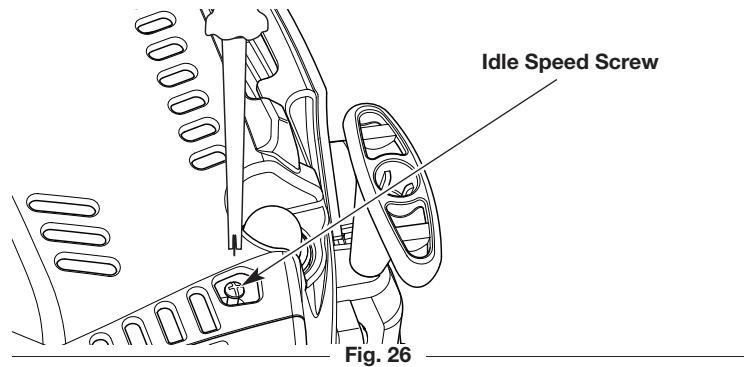

Fig. 26
- If the engine stops, use a small Phillips screwdriver to turn the idle speed screw clockwise, 1/8 of a turn at a time (as needed) until the engine idles smoothly (Fig. 26).
- If the engine idles too quickly, turn the idle speed screw counterclockwise, 1/8 of a turn at a time (as needed) to reduce the idle speed (Fig. 26).